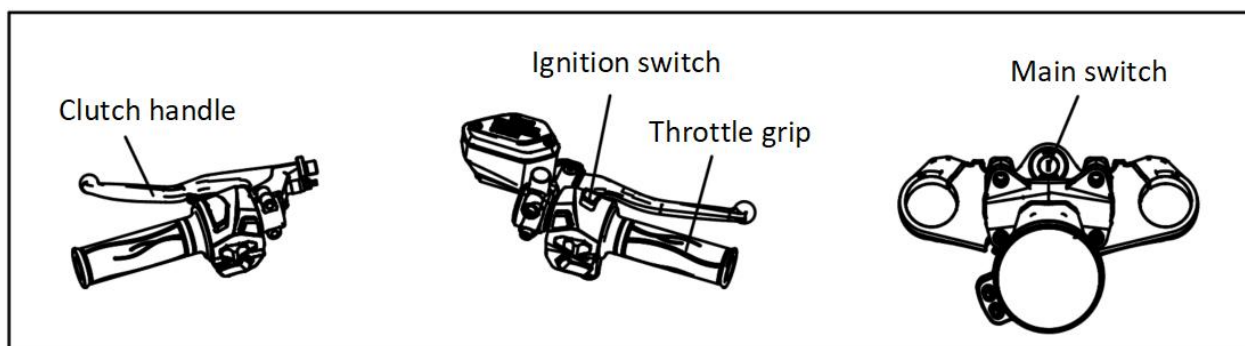

Figure 11
5.3. Motorcycle Start (Figure 11)